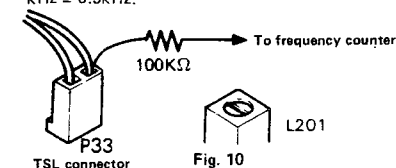

Fig. 10
- Turn the monitor switch to SOURCE and connect the audio oscillator to the record terminal through the attenuator. Then, adjust with an attenuator applying 400Hz signals so that the output voltages of TP2L, R (pins ⑦ of MOD1L, R) are 580mV-0.5dB.
- Move the tape select switch to the METAL position and insert a measuring rod into the pin of connector (P33) for erasure head as shown in Fig. 10.